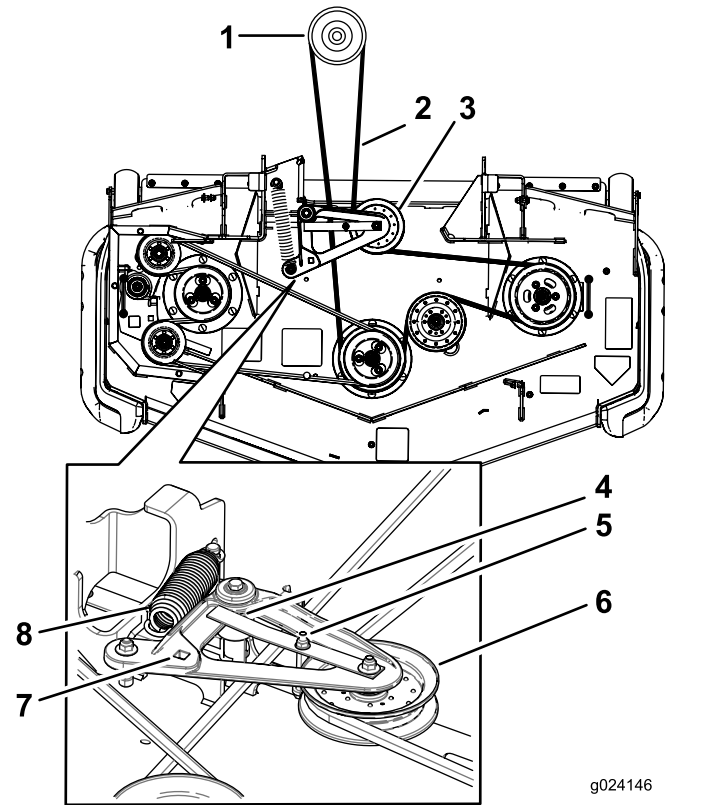

Figure 73
10. Using the ratchet in the square hole, install the new belt around the mower pulleys and the idler pulleys (Figure 73).
8. Use a ratchet in the square hole in the idler arm to remove tension on the idler spring (Figure 73).
10. Lift up on the belt-guide tab and remove the existing belt (Figure 73).
11. Install the new belt around the mower pulleys and the clutch pulley under the engine (Figure 73).
12. Rotate and ensure the belt-guide tab hits against the pivot hub Figure 73.
13. Using the ratchet in the square hole, install the idler spring (Figure 73).